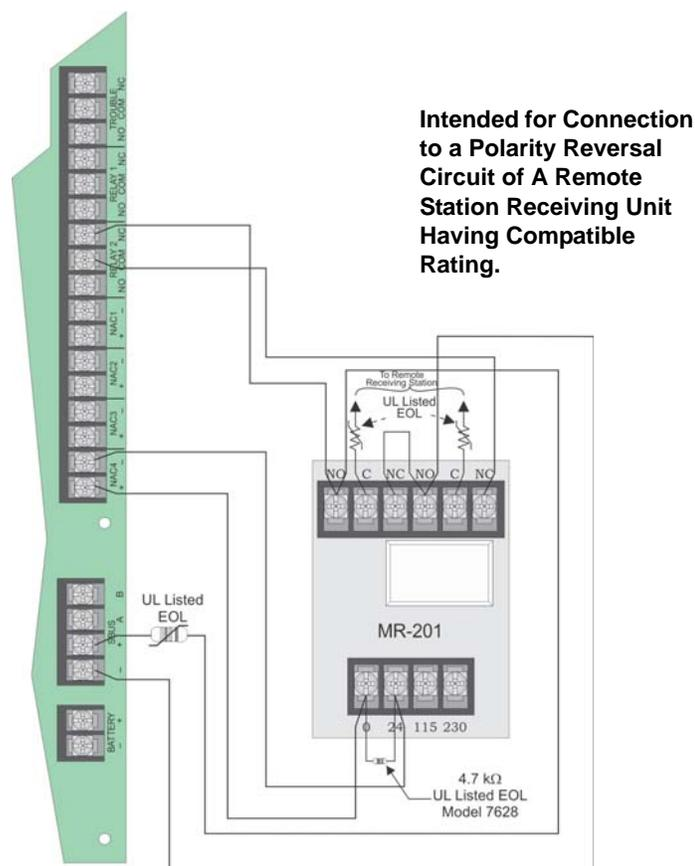

Figure 4-36 Polarity Reversal Connection Using the MR-201/T Relay
1. Wire the MR-201/T as shown in Figure 4-36.